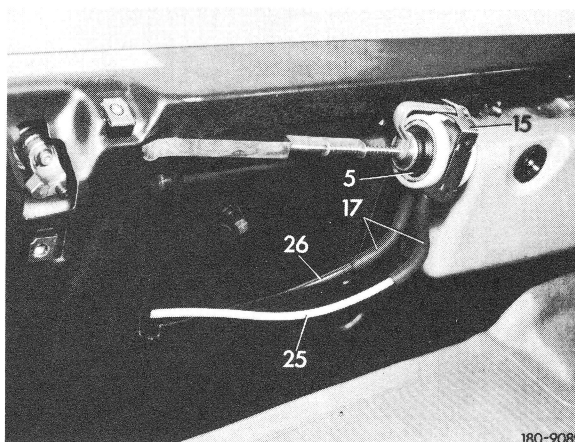

Fig. 4
8 Pull out vacuum element (5) and pull connection (17) with interlocking line „white“ (25) and unlocking line „black“ (26) from vacuum element (Fig. 4).
9 Remove holding spring (15) from vacuum element (5) (Fig. 4).
10 Connect interlocking line „white“ (25) and unlocking line „black“ (26) with connections (17) to vacuum element (5) (Fig. 4).